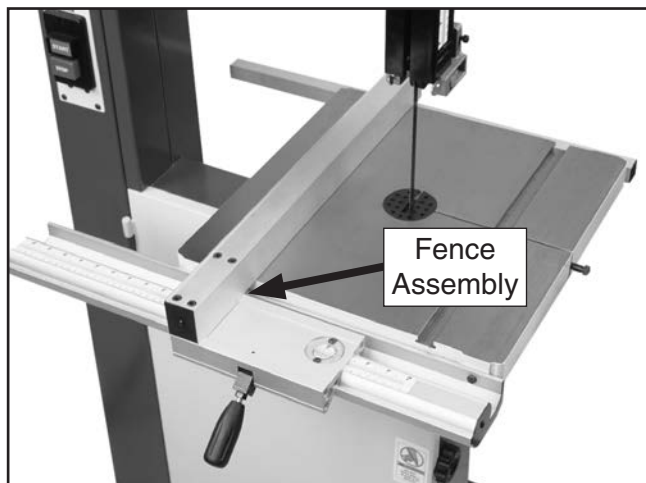

Figure 26. Fence assembly installed on G0513.
13. Pull fence handle up and place fence assembly on front rail (see **Figures 26–27**).